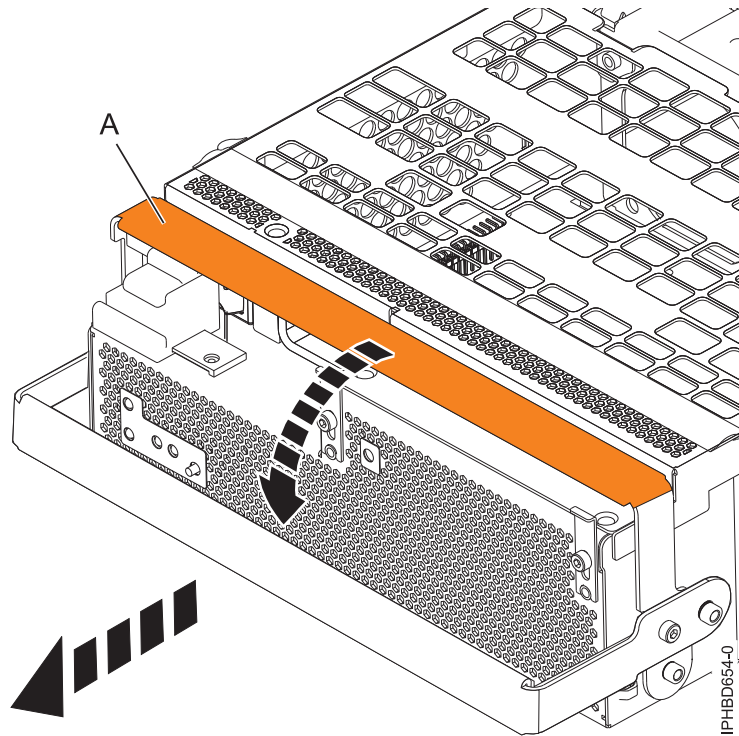

Figure 9. Removing a power supply
7. Rotate the power-supply locking handle (A) to the open position as shown in Figure 9. Pull the power supply out of the expansion unit.